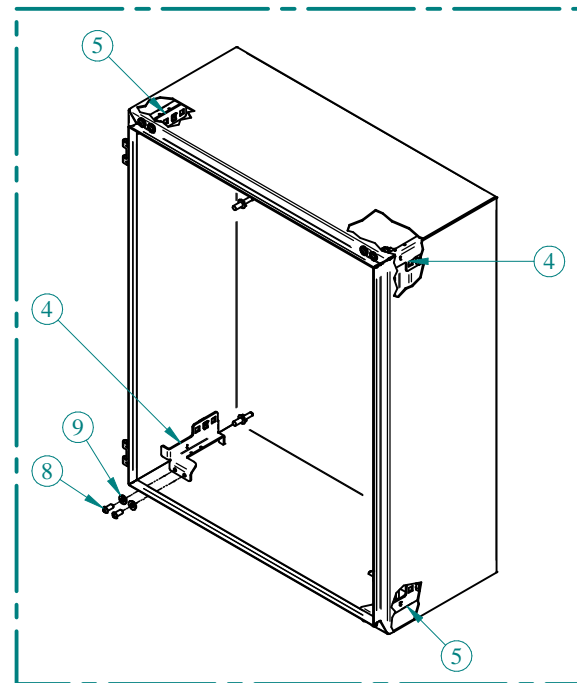

FIG. 3
3. Install mounting brackets. (Fig. 3)